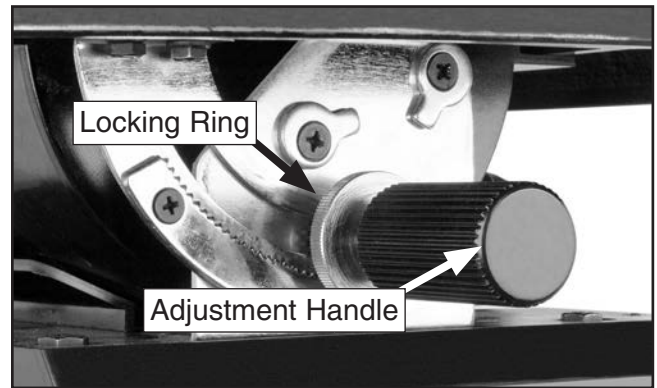

Figure 16. Loosening locking ring.
2. Loosen locking ring that holds table tilt by rotating it counterclockwise (see **Figure 16**).